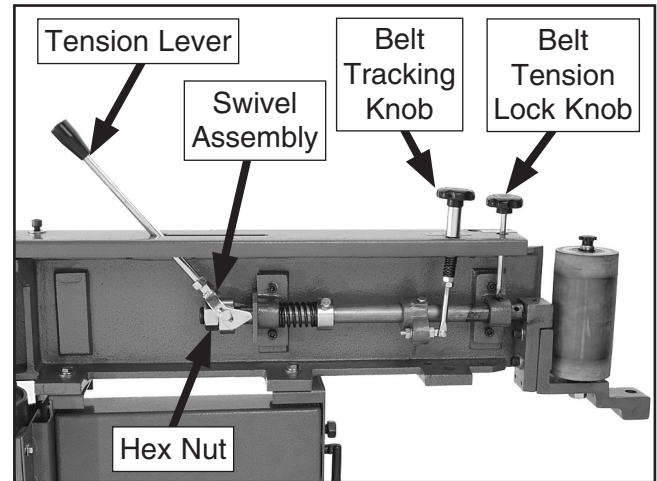

Figure 9. Tension lever installed.
4. Thread a $\frac{1}{2}$ -13 hex nut onto the tension lever, slide the tension lever through the slot on the top of the platen cover, then thread it into the swivel assembly (see **Figure 9**). It may be necessary to have an assistant push the idler roller back into the machine to allow the tension lever to line up with the thread in the yoke.